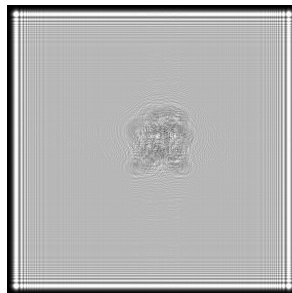

Fig. 2
10. It would look something like (fig. 2)